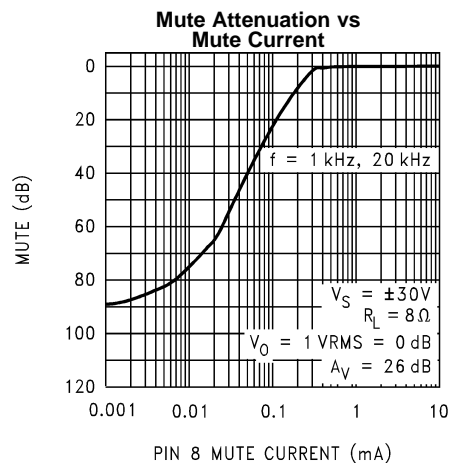

Figure 32.
12. R_M	Mute resistance set up to allow 0.5 mA to be drawn from pin 8 to turn the muting function off. → R_M is calculated using: $R_M \leq (V_{EE} - 2.6V)/I_8$ where $I_8 \geq 0.5$ mA. Refer to Figure 32 in Typical Performance Characteristics .
Mute Function: The muting function of the LM3876 allows the user to mute the music going into the amplifier by drawing less than 0.5 mA out of pin 8 of the device. This is accomplished as shown in the Typical Application Circuit where the resistor R_M is chosen with reference to your negative supply voltage and is used in conjunction with a switch. The switch (when opened) cuts off the current flow from pin 8 to V^- , thus placing the LM3876 into mute mode. Refer to Figure 32 in Typical Performance Characteristics for values of attenuation per current out of pin 8. The resistance R_M is calculated by the following equation: